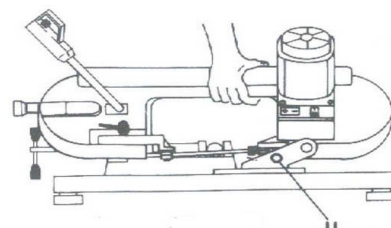

Fig.: 8
Your cutting machine is provided with a locking device, which allows you to transport it from one place to another. It is sufficient to insert the pin(U) in the hole in the body, and then lift the machine, gripping it as shown in fig.8.